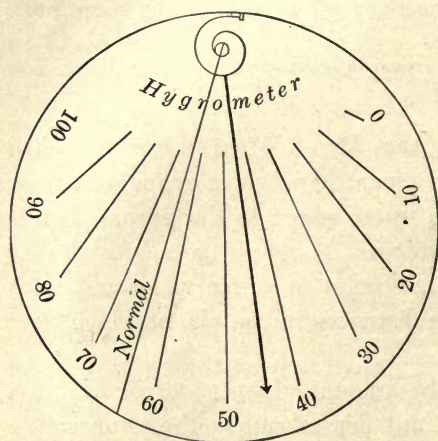

FIGURE 14.—THE HYGROMETER.
25. The Hygrometer. — An instrument used to measure the amount of water vapor in the air is called a *hygrometer*. Figure 14 shows a common form of the hygrometer. It consists of a small spring, a pointer, and a scale.